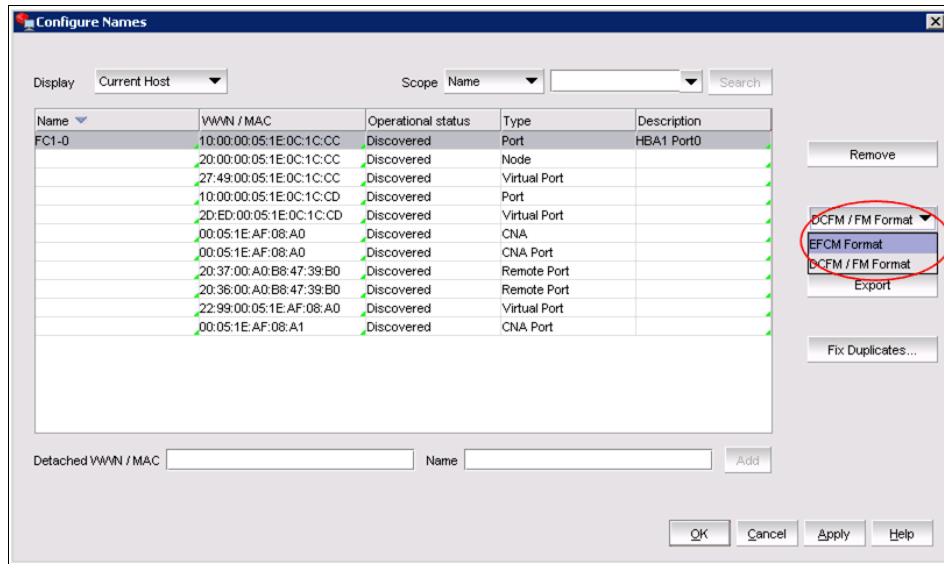

Figure 10-40 Import from ECFM format
1. In the Configure Names dialog box, select **EFCM Format** and then select **Import** (Figure 10-40).